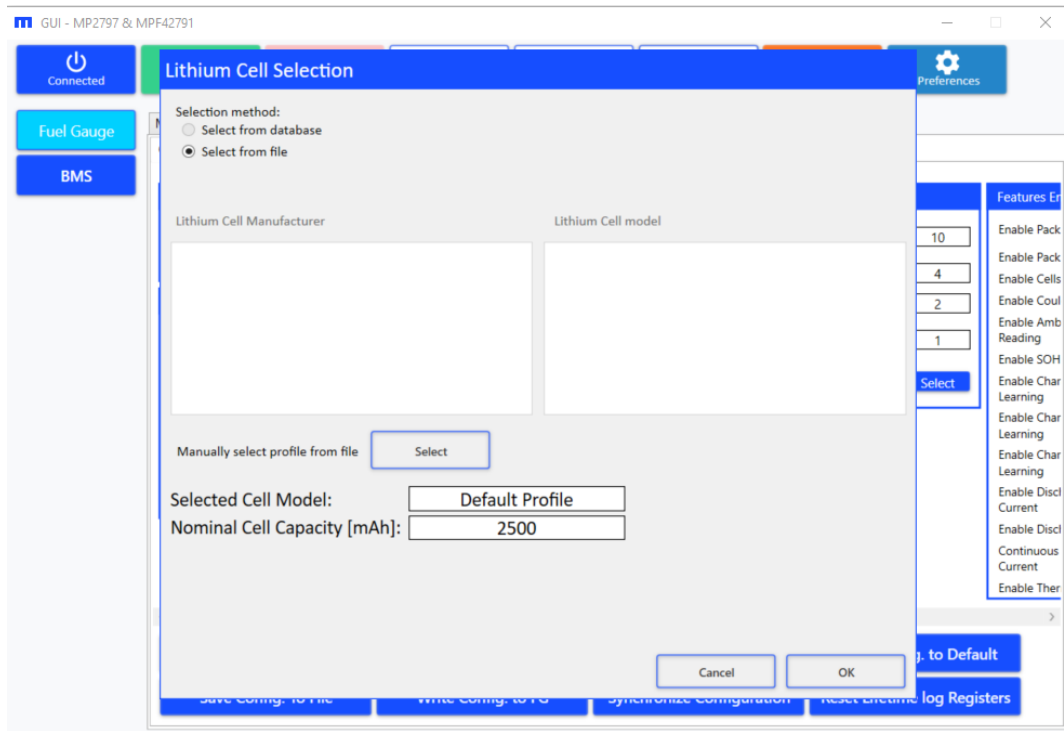

Figure 39: Lithium Cell Selection Window
- a. The first “Select” button opens the wizard to select the cell profile (see Figure 39 on page 31).